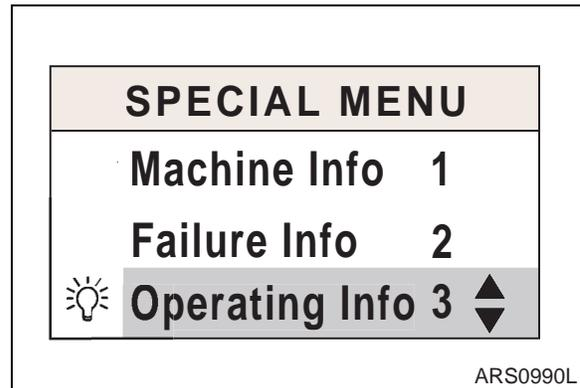
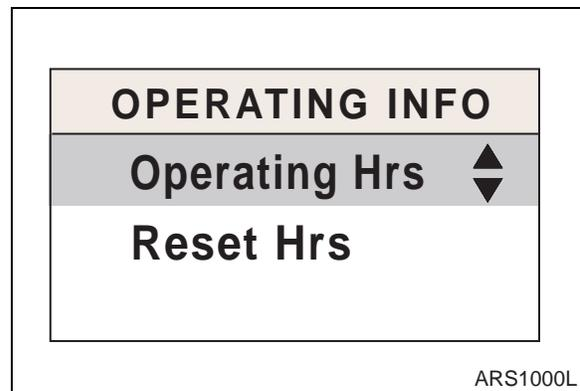

Figure 37
Figure 38
- A. **Entering Sub-menus:** When a cursor is located in "Operating Info" of special menu screen (Figure 37) press enter button(↵, 3 on Figure 18) and "Operating Info" screen will be displayed (Figure 38).
- B. **Information screen of machine operation** (Figure 38).